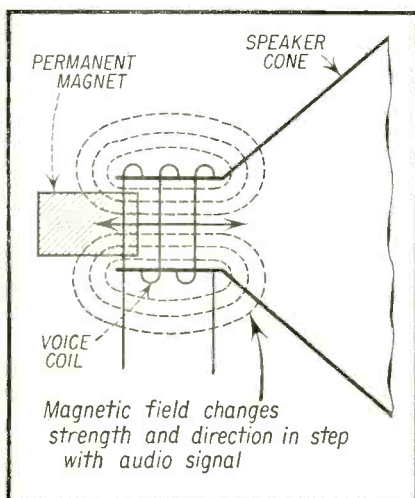

Fig. 1A—Action of magnetic field in speaker.
1. The audio output tube (see Fig. 1A) delivers power to the output transformer in the form of an audio signal current.